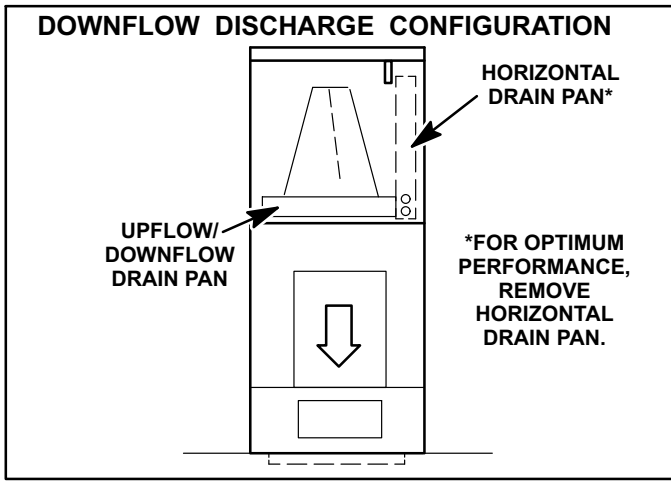

FIGURE 19
- 3- Remove horizontal drain pan. See figure 19.
- 6- Replace coil assembly and blower if removed. Replace coil access panel. If horizontal drain pan is not removed, depress tab in cabinet support rail to hold horizontal drain pan in place. See figure 19.